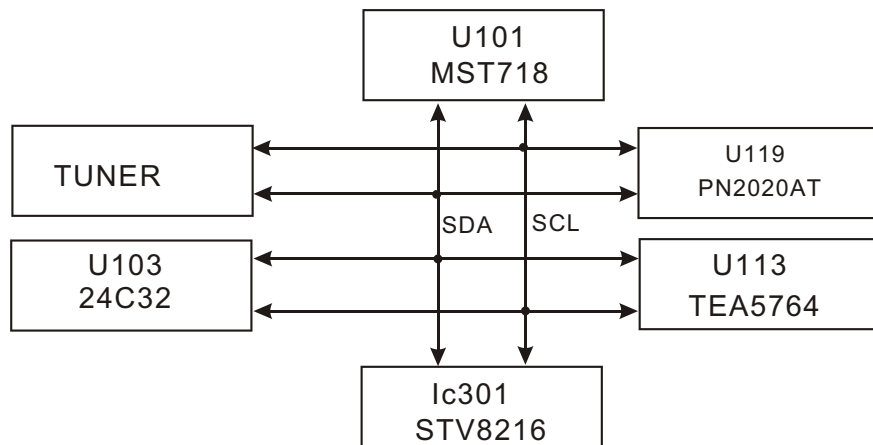

Figure 3.2.1.4 IC bus control circuit block diagram
(1) IIC bus control circuit block diagram is shown in the figure 3.2.1.4:
(2) Working principle: IIC bus is a kind of simple, dual-direction and synchronous serial line developed by PHILIPS company. Only 2 lines (serial clock line and serial data line) are required to connect between components on bus to transmit information. This bus is high-performance serial bus which has function of decision and synchrony of high and low speed devices required by multi-player system with wide application range. shown in the figure 3.2.1.4, U103 is a 32K memorizer used to store user information.